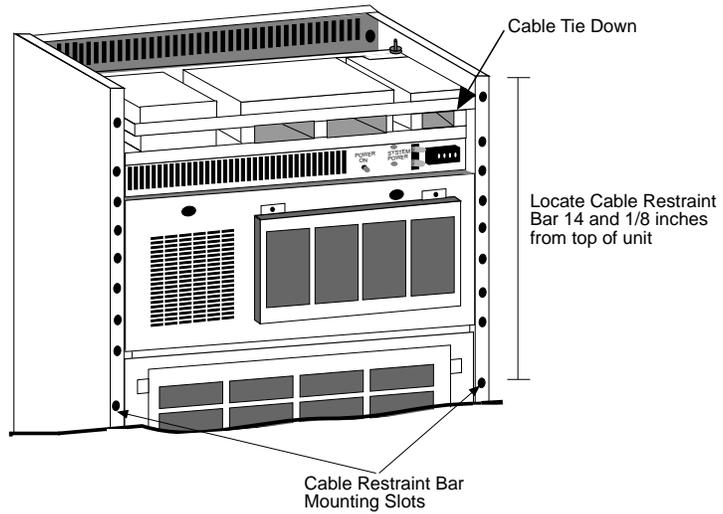

Figure 2-17. Installing the Cable Restraint Bar
10. Install the cable restraint bar on the rear of the unit, using two #10 screws in the bottommost mounting holes (Figure 2-17).
9. Install the cable restraint bar on the rear of the unit in the bottommost mounting holes (Figure 2-17).